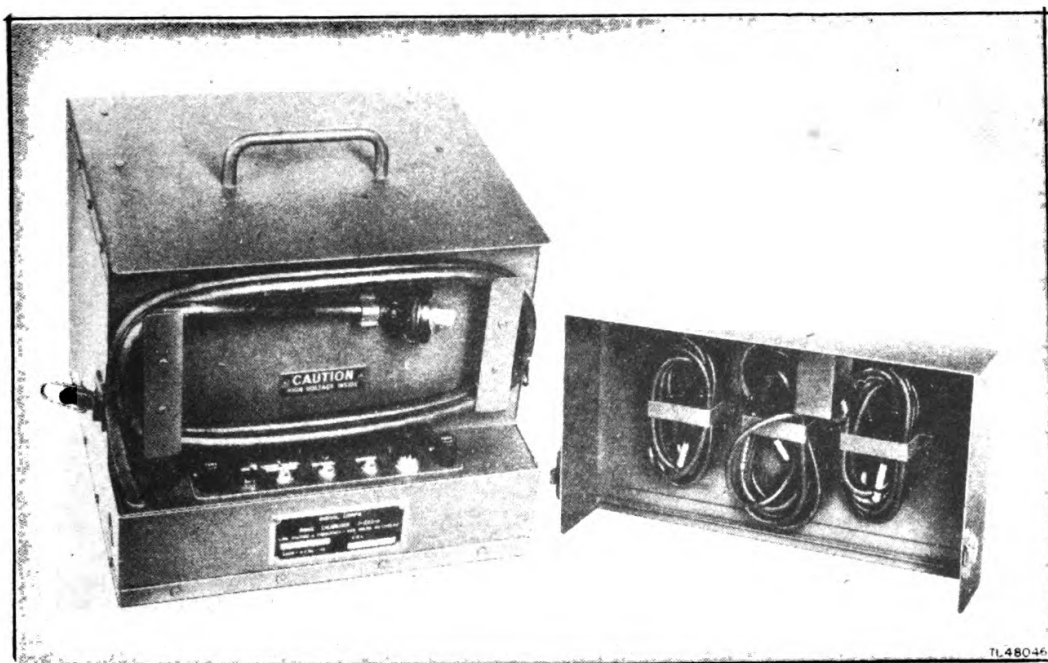

Figure 4. Range Calibrator I-223-A.
7. RANGE CALIBRATOR I-223-A (fig. 4).